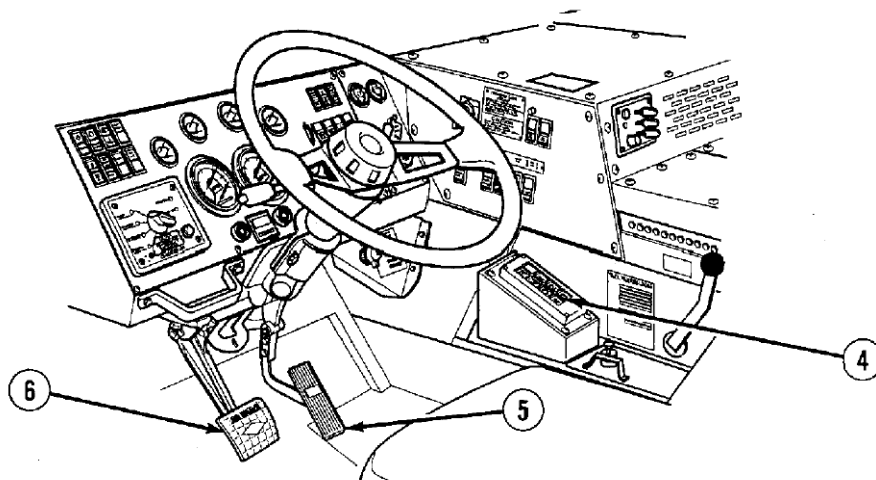

Figure 12. 8 Throttle Control And Brake Control
- a. Set the transmission range selector (Figure 12. 8. 4) to Reverse (R).
- b. Press the throttle control (Figure 12. 8. 5) and move launch vehicle straight back about 20ft. (6.1m).
- c. Release the throttle control (Figure 12. 8. 5) and press service brake pedal (Figure 12. 8. 6).